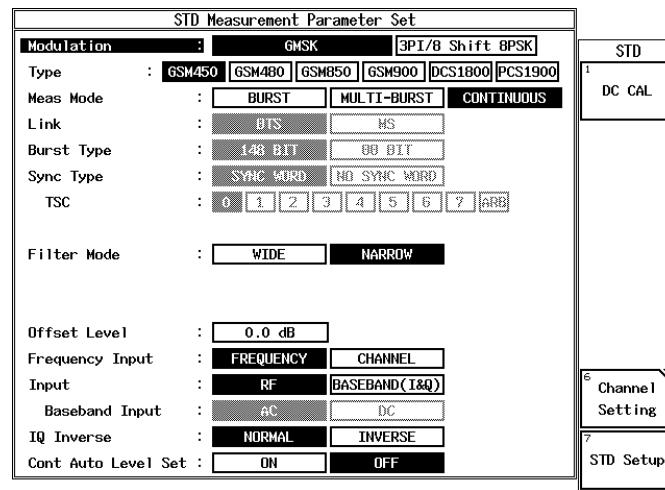

Figure 6-2 Setting of STD Parameter for Phase Error Accuracy Measurement (GSM)
3. On the R3267 Series, set the STD parameter as shown Figure 6-2.